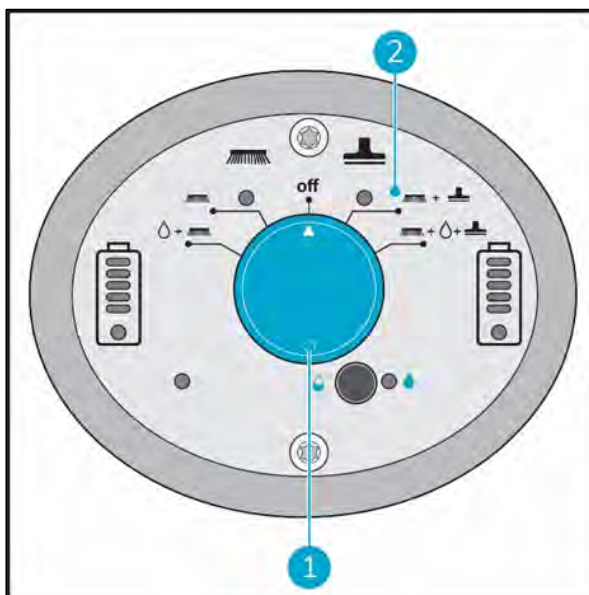

Figure 21
1. Use the i-mop XL Basic main switch (Figure 21, pos 1) and choose MODE 3 Brush + Dry vacuum (Figure 21, pos 2).